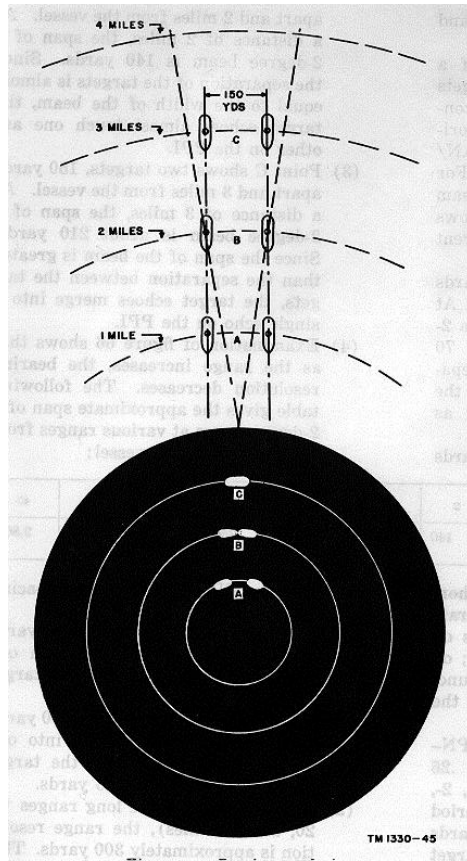

Figure 66. Bearing resolution.
a. *Bearing Resolution.* The ability of a radar set to separate two closely spaced targets at the same range is a function of the horizontal width of the transmitted beam. The horizontal width of the beam of Radar Set AN/SPN-18 is 1.9° at half-power points. For purposes of discussion, assume that the beam width is 2° and refer to figure 66 which shows two targets at the same range with different spacings (bearings).
- (1) Point A shows two targets, 150 yards apart and 1 mile from the vessel. At a distance of 1 mile, the span of a 2-degree beam is approximately 70 yards. Since the two targets are separated by more than the width of the beam, the target echoes appear as separate echoes on the PPI.
- (2) Point B shows two targets, 150 yards apart and 2 miles from the vessel. At a distance of 2 miles, the span of a 2-degree beam is 140 yards. Since the separation of the targets is almost equal to the width of the beam, the target echoes almost touch one another on the PPI.
- (3) Point C shows two targets, 150 yards apart and 3 miles from the vessel. At a distance of 3 miles, the span of a 2-degree beam is about 210 yards. Since the span of the beam is greater than the separation between the targets, the target echoes merge into a single echo on the PPI.
- (4) Examination of figure 66 shows that as the range increases, the bearing resolution decreases. The following table gives the approximate span of a 2-degree beam at various ranges from the radar-equipped vessel: